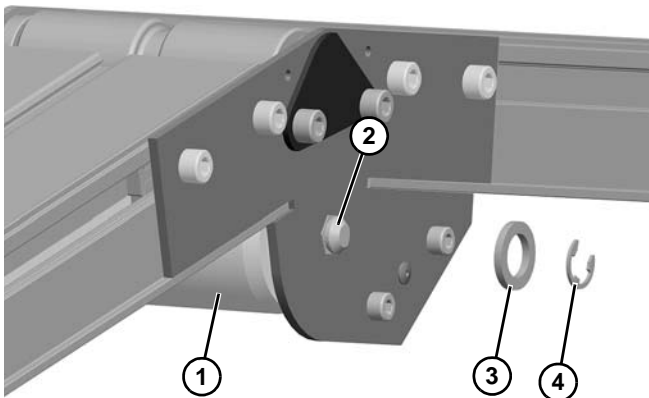

Figure 71
- a. For 2" (44 mm) through 4" (95 mm) wide conveyors, install pulley (**Figure 71, item 1**) and pulley shaft (**Figure 71, item 2**). Install washer (**Figure 71, item 3**) and E-ring clip (**Figure 71, item 4**) on one side.